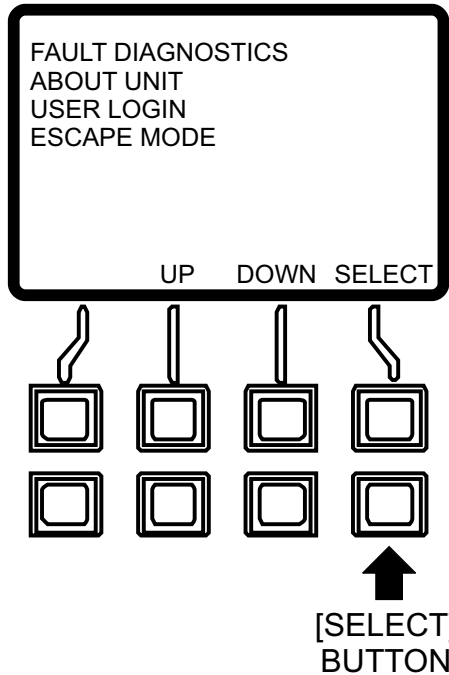

Figure 86. Main Menu (Select Button)
- Press the **[SELECT]** button (Figure 86) to enter the "Escape Mode" menu.